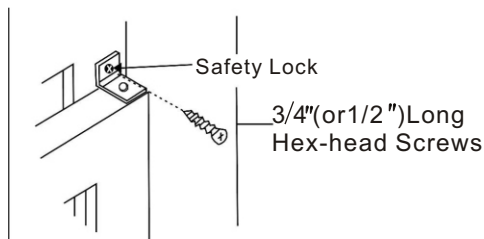

Fig. 19
2. Attach right angle safety lock (Fig. 19).